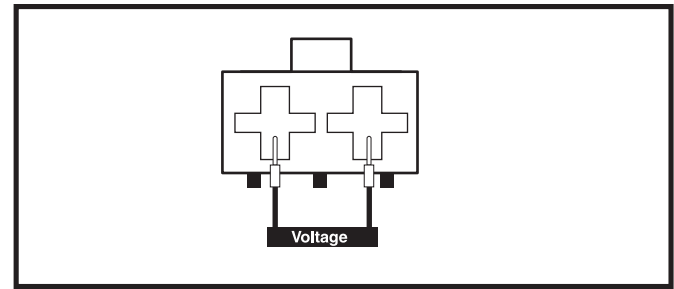

Figure 8. Connector 5a
14. Measure voltage across pin 1 and pin 2 on connector 5a. See figure 8.